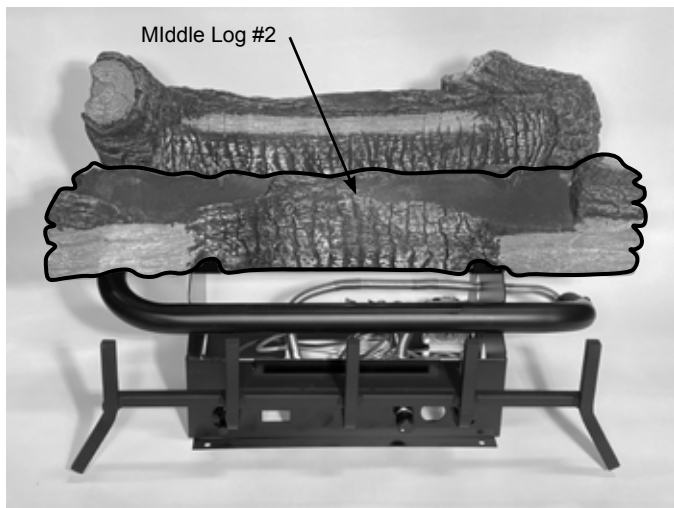

Figure 6.2 - Place Middle Log
2. Place Middle Log (#2) on middle support. Figure 6.2